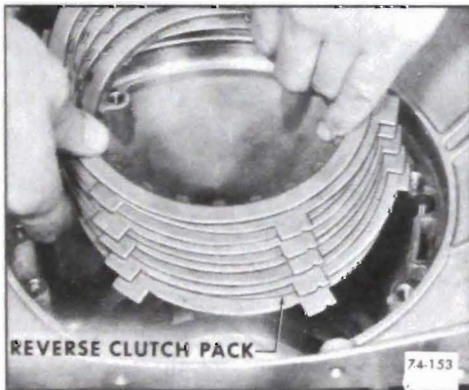

Figure 74-293
7. Align notches on the steel driven plates. Install the steel driven plates and lined drive plates alternately, beginning with a steel driven plate. The notched lug on each driven plate goes in the 5 o'clock groove in case. See Figure 74-293.